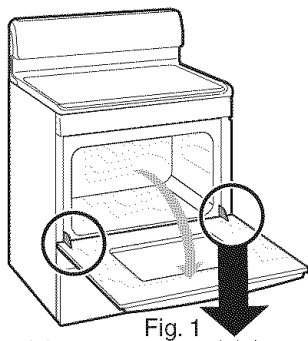

Fig. 1
5. Place broiler pan on rack; make sure the broiler pan with the insert is positioned as shown (See Fig. 1). Be sure front of pan is positioned correctly in rack.
1. Open oven door completely (horizontal with floor - See Fig. 1).